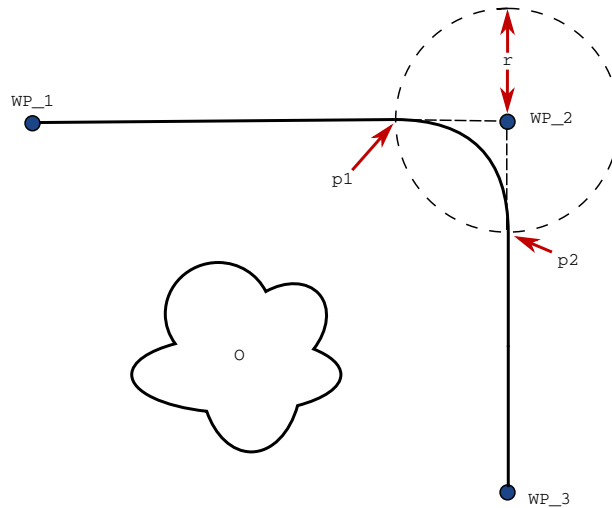

Figure 15.3: Blend over  $WP_2$  with radius  $r$ , initial blend position at  $p1$  and final blend position at  $p2$ .  $o$  is an obstacle.
**Blend parameters** Apart from the waypoints, multiple parameters will influence the blend trajectory (see figure 15.3):